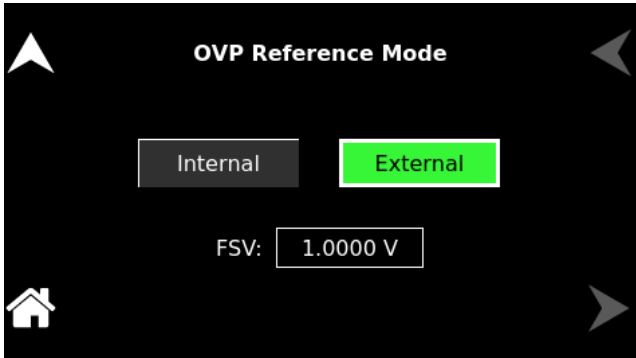

Figure 9-191. OVP Reference Mode
- OVP Ref Mode:** Configures the Over Voltage Protection (OVP) Reference Mode. When the OVP Reference Mode is set to External, the OVP setting field on the Dashboard screen and the ‘Protection’ option in the Configuration screen will be disabled, and these OVP fields will display as ‘EXT’ refer to Figure 9-190 and Figure 9-191